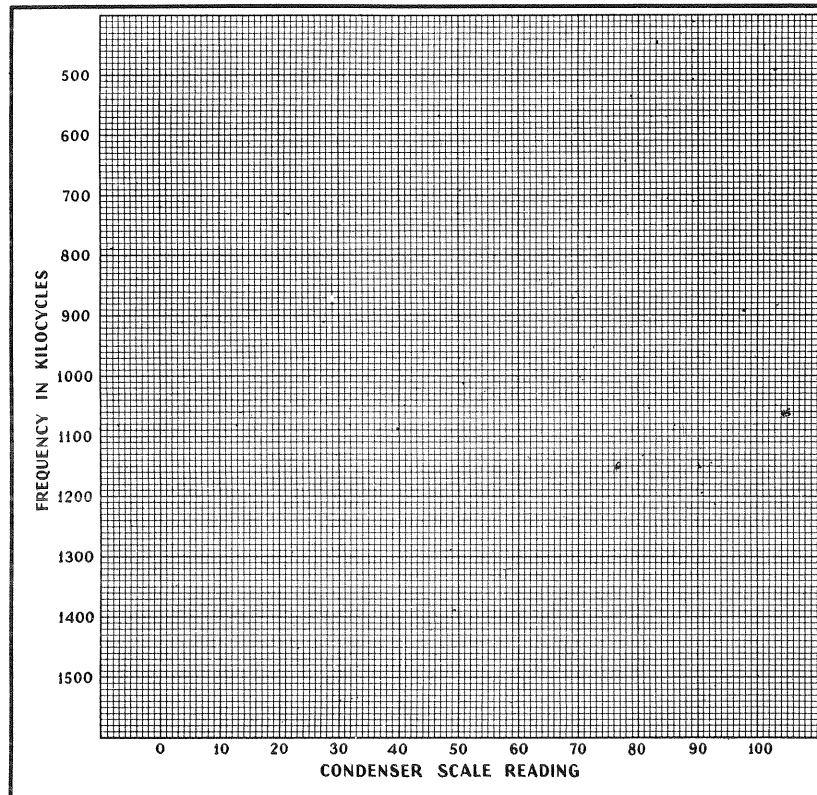

Figure 17—Chart for plotting R.F. Oscillator calibration curve
- Adjust the dial of the oscillator until its signal is heard at maximum intensity in the receiver or zero beat is obtained with the broadcasting station. Note the reading of this position on the oscillator dial and plot this position on the chart shown in Figure 17. The vertical division represents frequency and the horizontal divisions, the oscillator scale readings.